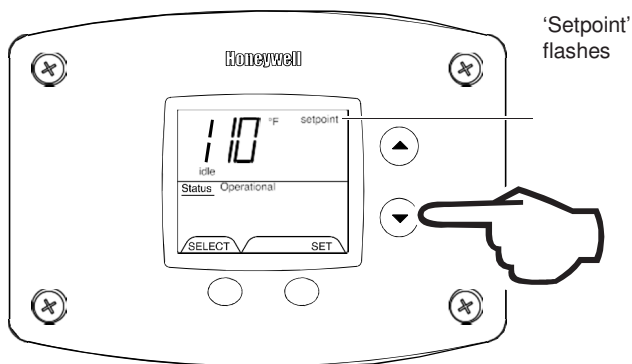

Fig. 18
2. 'Setpoint' indicator begins flashing in the display after pressing 'Temperature Down' button (Fig. 18).